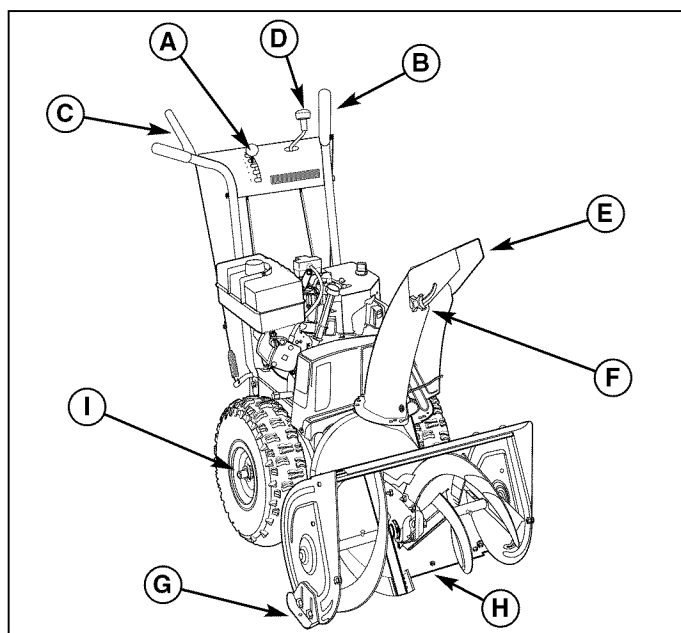

Figure 4. Snowthrower Controls
The traction drive to each wheel can be locked and unlocked with the Traction Lock Pins (H, Figure 4) to permit the unit to “free-wheel,” allowing easier manual handling and transport of the snowthrower.
E. Chute Deflector - Controls the distance snow is thrown. Tilting the chute deflector (E, Figure 4) UP provides a higher stream and greater distance, while tilting the deflector DOWN provides a lower stream and less distance.
F. Chute Deflector Knob - This knob (F, Figure 4) allows the discharge chute deflector (E) to be locked in the desired tilt position.
G, H. Scraper Bar Height Control - The skid shoes (G, Figure 4) control the height of the scraper bar (H). (NOTE: On later models, the scraper bar is also adjustable.) The scraper bar allows smooth surfaces (such as concrete or asphalt driveways) to be scraped clean of snow. On surfaces such as gravel, the scraper bar should be adjusted higher — so that it will not pick up gravel or debris.
I. Traction Lock Pins - The traction drive to each wheel can be locked and unlocked with the traction lock pins (I, Figure 4) to permit the unit to "free-wheel," allowing easier manual handling and transport of the snowthrower.